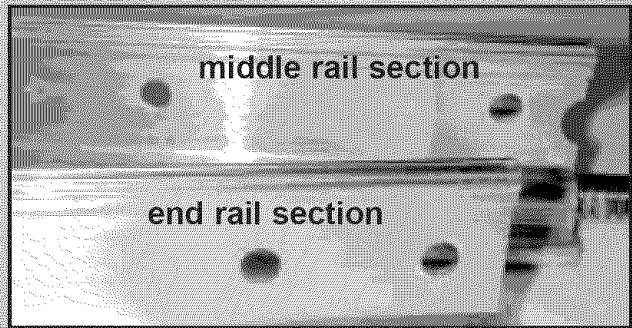

Fig. 1-6
- Select “middle” rail section. (This section looks identical on both ends with each set of holes being about 4 inches apart.) **Fig. 1-6.**